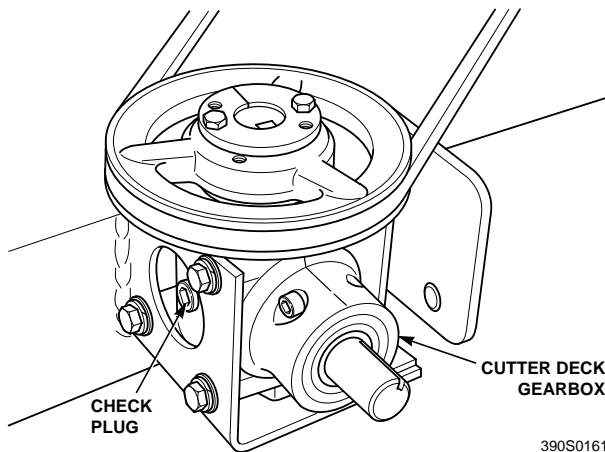

Figure 7-9 Cutter Deck Gearbox
The fluid level in the cutter deck gearbox (Figure 7-9) should be checked after every 100 hours of operation or bi-weekly, whichever occurs first.
2. Clean and remove the check plug from the side of the gearbox (See Figure 7-9). Visually check that the lubricant level is up to the bottom edge of the check plug hole. If lubricant is low, add SAE 80W90 lubricant through the check plug hole in the gearbox until it is level with the bottom of the check plug hole. Install the check plug and tighten securely.